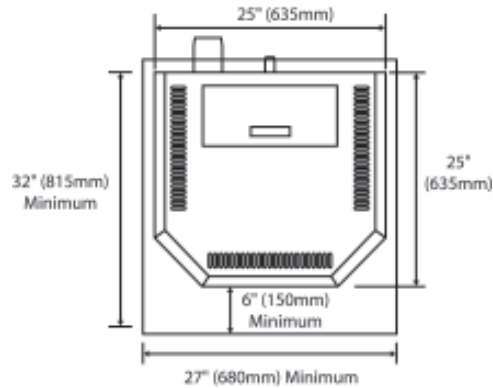

Figure 1. **KØZI** BayWin noncombustible floor protector (same dimensions apply to Model 100 and KSH Series).
6. This heater requires a floor protector beneath the heater and extending a minimum of 6 inches (150mm) in front and beyond each side of the fuel loading and ash removal openings of the heater. This is to catch any spillage, which may occur during opening and closing of the doors. See figure 1 for more information.